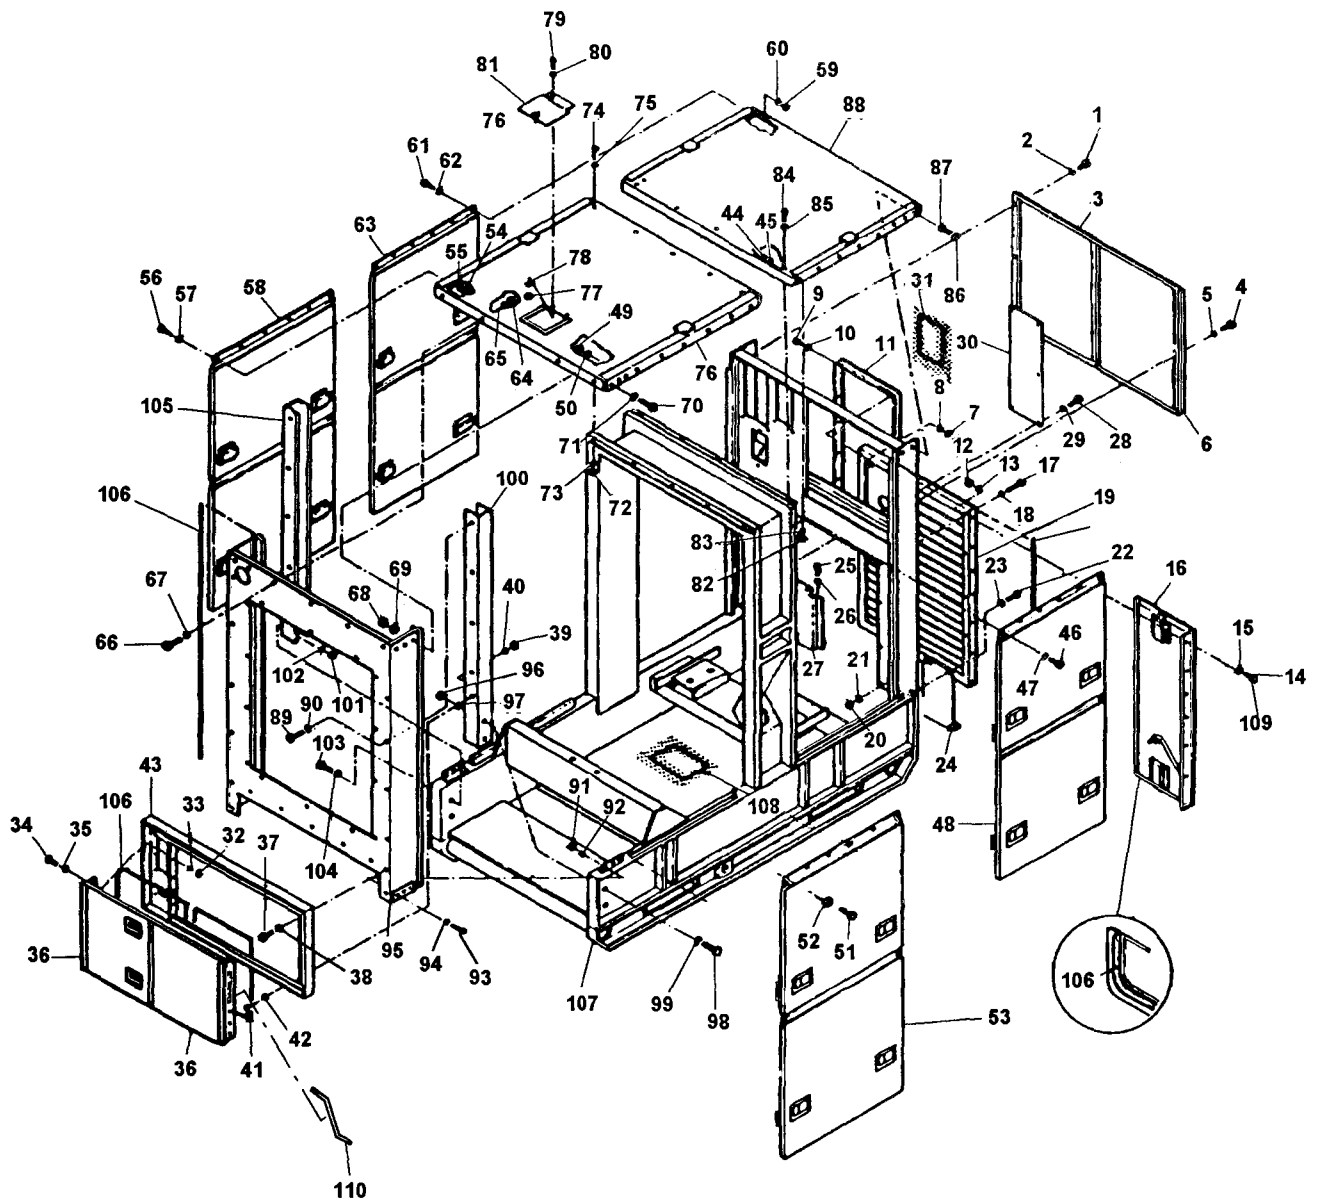

Figure 4-50. Housing Assembly, Exploded View (Sheet 1 of 2)
A wiring harness support damp on the underside of the top rear cover (88, Figure 4-50) must be removed before attempting to remove the cover.
- (1) Remove grille, radiator and shutter assembly (paragraphs 4-36 through 4-39).
- (2) Remove convenience receptacle and circuit breaker (paragraph 4-75).
- (3) Remove paralleling receptacles (paragraph 4-76).
- (4) Remove doors, covers and panels by following the ascending numerical sequence of index numbers (1 through 106) assigned to Figure 4-50.
- (1) Install doors, covers, and panels by following the descending numerical sequence of index numbers (106 through 1) assigned to Figure 4-50.
- (2) Install paralleling receptacles (paragraph 4-76).
- (3) Install convenience receptacle and circuit breaker (paragraph 4-75).
- (4) Install grille, radiator and shutter assembly (paragraphs 4-36 through 4-39).